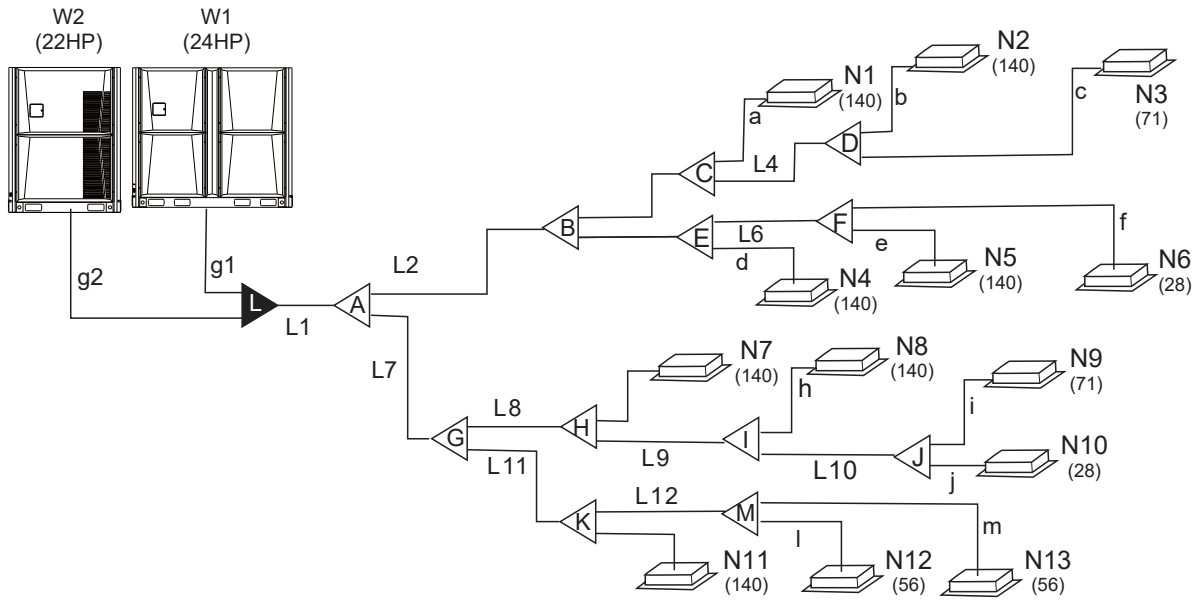

Fig. 4.2 Tube classification
| Tube name                          | Connecting position  | Code (Fig. 4.2)                 |
- E.g.: The capacity of downstream indoor units after L2 in Fig. 4.2 is 140×4+28+71=659, so the gas tube and liquid tube of L2 are respectively: Φ28.6 and Φ15.9.